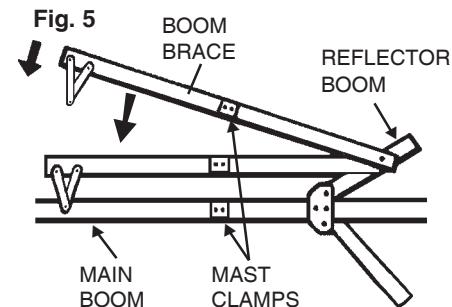

Fig. 5
STEP 1. Assemble antenna using previous steps. Lay boom brace on top of antenna with U-bolts on same side. Find the bolt hole in the corner reflector and attach brace with the bolt and nut provided. Swing boom brace down toward the rear. Form a "V" with the metal straps. Bolt the "V" to each side of boom. See Figures 5 and 5A.